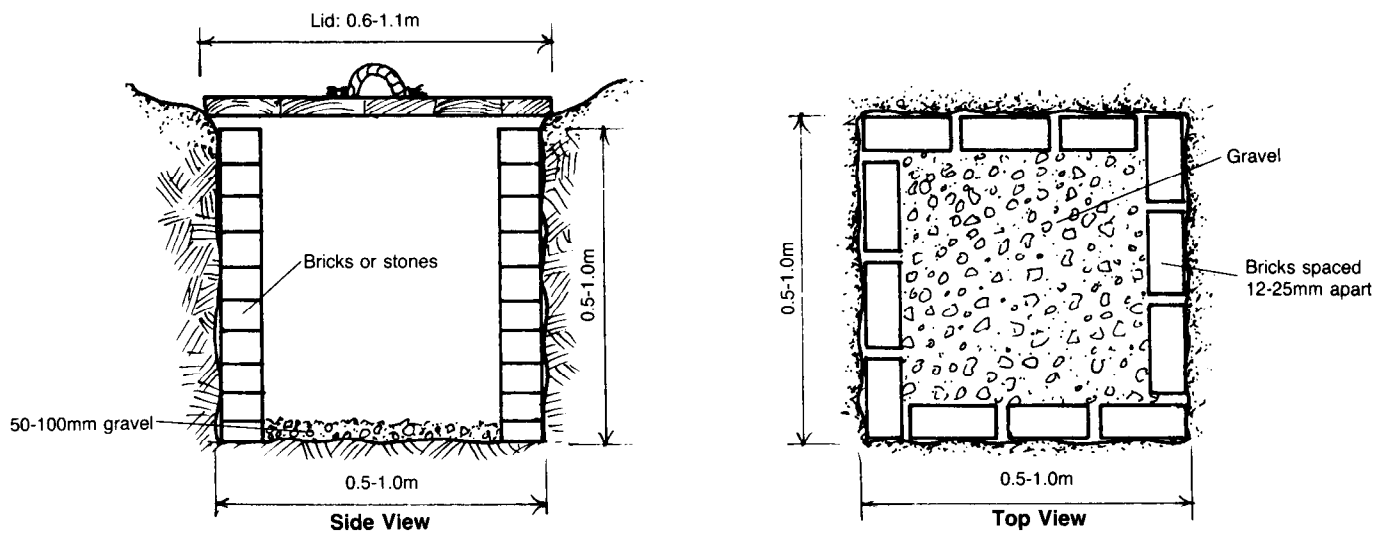

Figure 2. Pit-type Sump
2. Technical drawings, similar to one or more of Figures 2, 3, 4, and 5, showing the correct dimensions of the system.